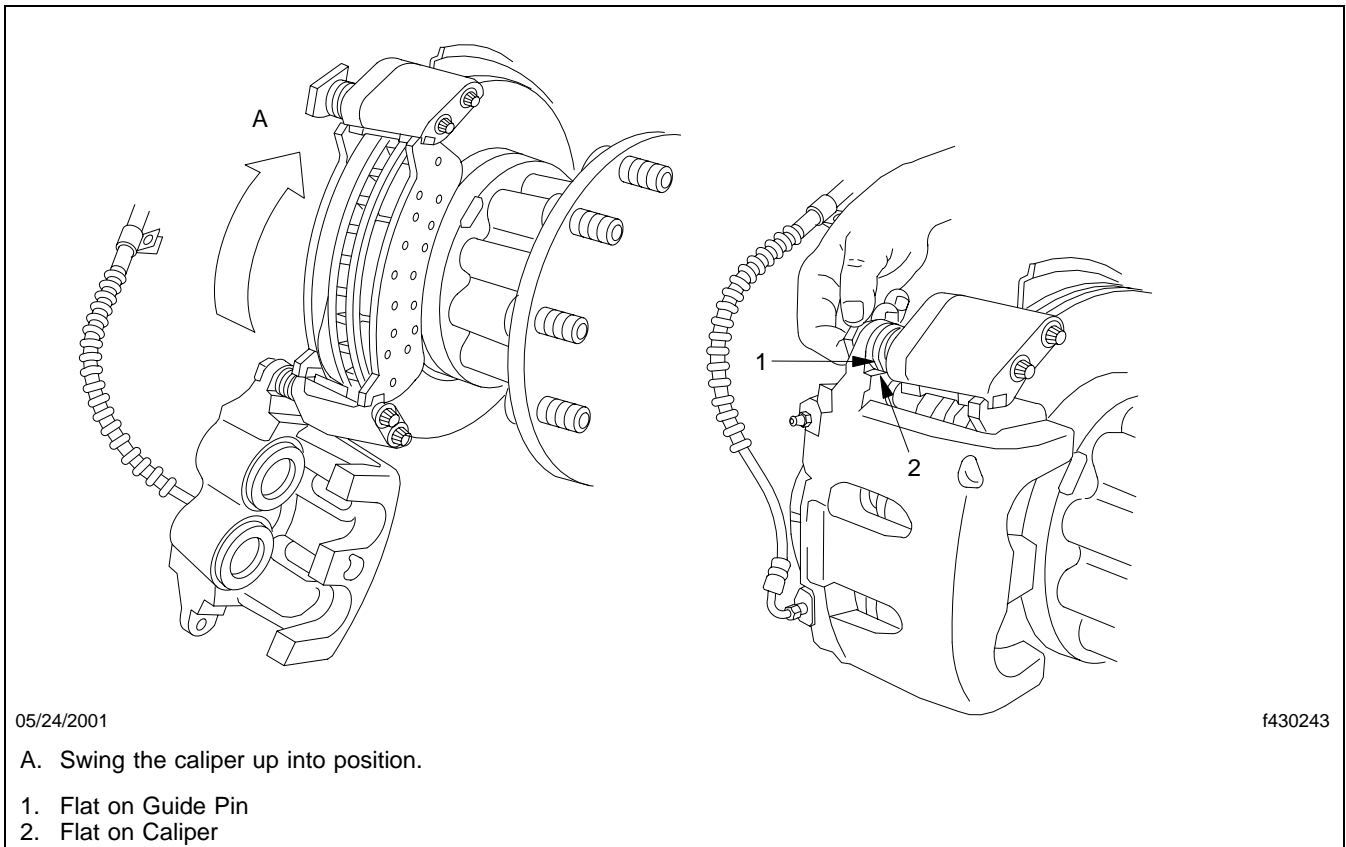

Fig. 10, Rotating the Caliper Over the Brake Pads and Rotor
5. Carefully rotate the caliper closed about the lower pin mounting bolt and guide pin. Do not allow the brake line hose to become pinched or kinked. Align the flat on the upper guide pin head with the flat on the caliper upper guide pin boss. See **Fig. 10**.